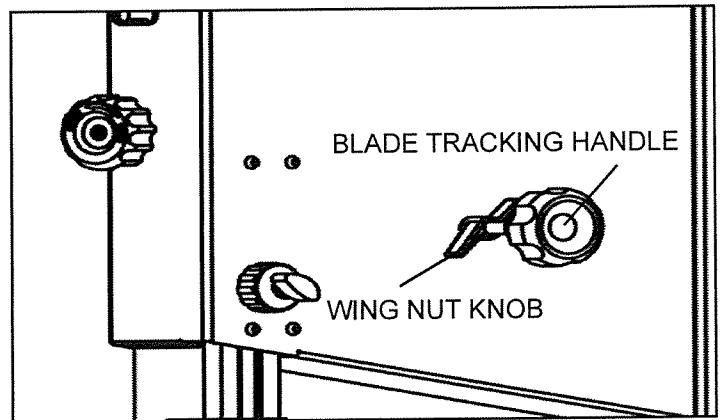

FIGURE 13
1. Open both doors. At the rear of the machine, loosen the locking Wing Nut Knob (#3A) by turning it counterclockwise. FIG. 13.